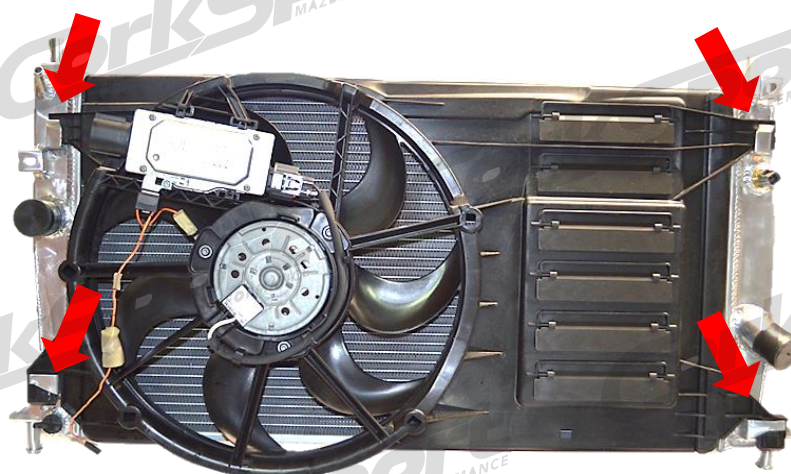

Figure 2f
- g) **Guide the fan housing up into the engine bay** and hook it's four (4) tabs into the holding tabs welded to the radiator (**Figure 2f**).
g) Guide the fan housing up into the engine bay and hook it's four (4) tabs into the holding tabs welded to the radiator (red arrows in Figure 2f).